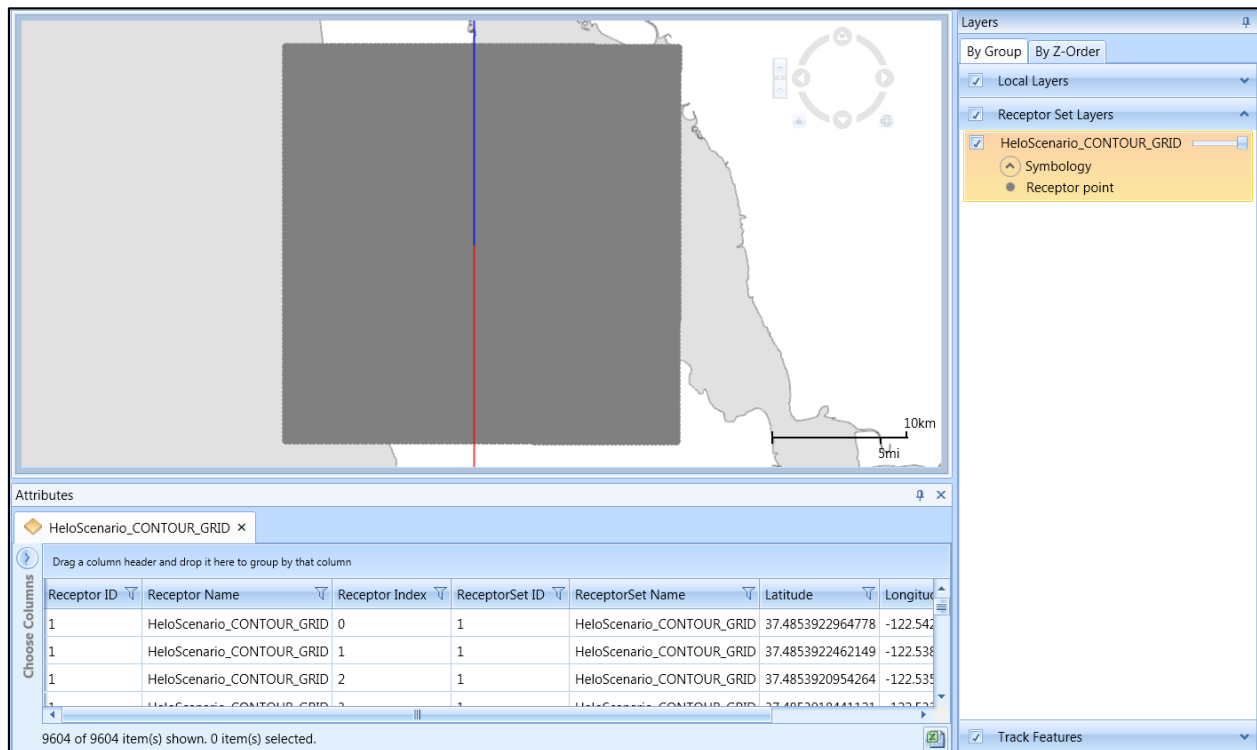

Figure 5-30 Sample Receptor Set Layer with Attributes – shown with Tracks
3. The receptor set layer is displayed on the map (Figure 5-30) and in the *Layers* manager.
The following attributes are available for all receptor set layers: receptor ID, receptor name, receptor index, receptor set ID, receptor set name, latitude, longitude, elevation (Figure 5-30). See Appendix B.3 for descriptions of the attributes.
The following attributes are available for all noise exposure layers: receptor ID, receptor name, receptor index, receptor set ID, receptor set name, latitude, longitude, elevation, noise results (dB, Minutes, %, or Operation count), metric type, and metric name (Figure 5-30). See Appendix B.3 for descriptions of the attributes.